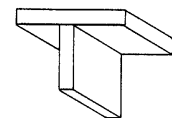

Figure 2.7
1. Lower the helmet. Before striking an arc, tell persons in the area to cover themselves. Tack weld two pieces of mild steel together to form a T-joint. (See Figure 2.7.)
2. Position the metal so that the joint to be welded is in the overhead position. (See Figure 2.7.)